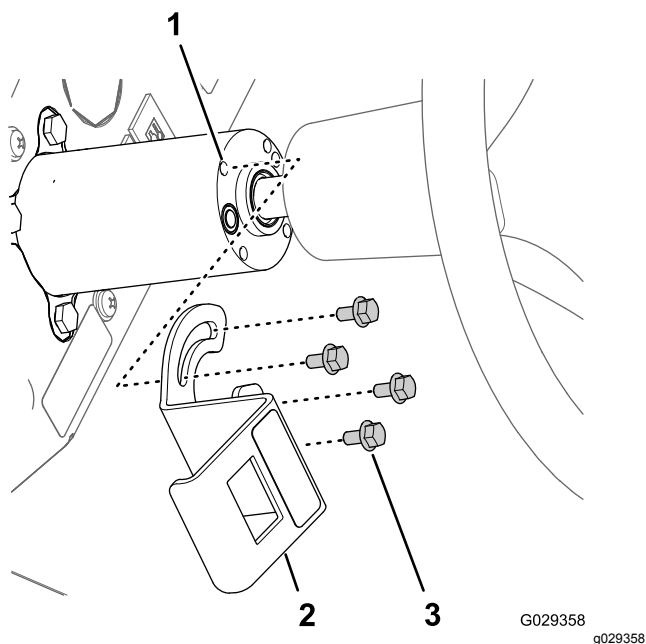

Figure 208
1. Align the slots in the mounting bracket for the foam-control switch with the 4 threaded inserts in the steering column (Figure 208).
3. Align the 8-socket connector through the opening in the bracket and connect the connector to the pins (Figure 208) at the back of the 3-position paddle switch (foam-control switch).